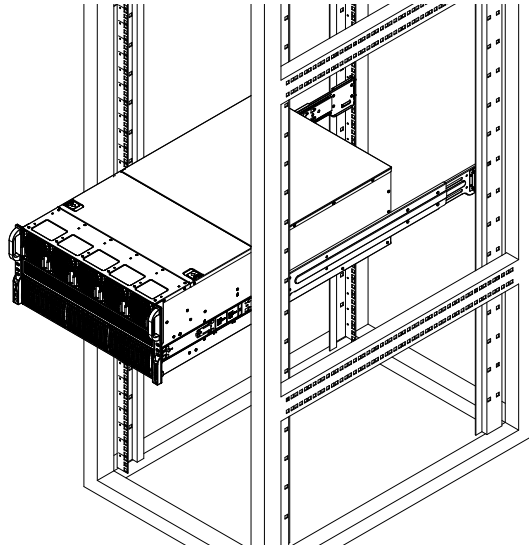

Figure 2-3. Mounting Chassis to the Rack
5. (Optional step) Add the front left and right handles to the chassis using five screws to secure each handle. Install a thumbscrew through the bottom hole of each handle (see Figure 2-3).